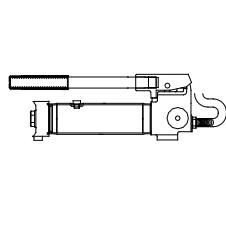

Figure 9 - Horizontal and Vertical Position
- Pump may be used in horizontal and vertical position as illustrated in Figure 9.